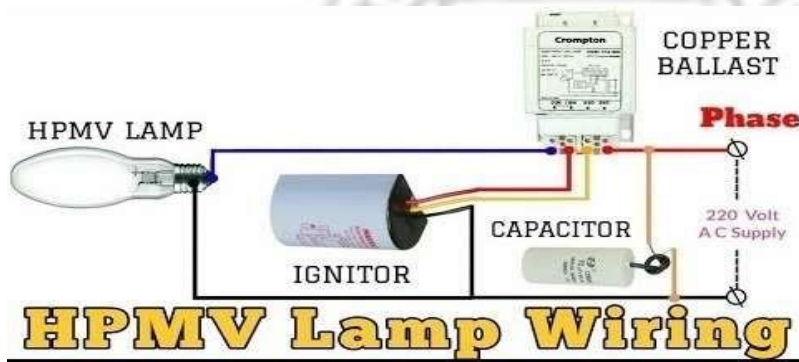

fig.12
- 4 Connect the accessories as per circuit diagram, Fig 13 (Pictorial diagram Fig 12) using the recommended type of termination.